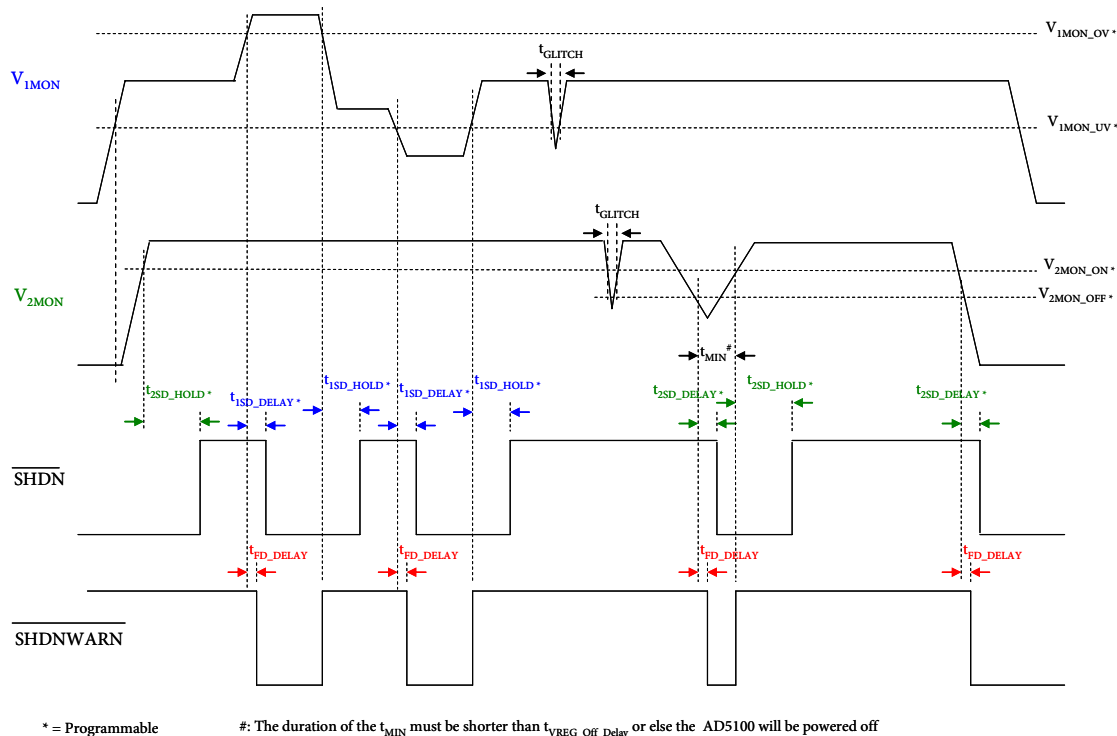

Figure 5.  $V_{1\text{MON}}$  and  $V_{2\text{MON}}$  Shutdown Timing Diagrams (Note  $\overline{\text{RESET}}$  follows  $\overline{\text{SHDN}}$ ).
depending on how long the shutdown programmed-delay is set relative to the  $\overline{\text{SHDNWARN}}$  propagation delay, this feature attempts to allow the system to finish any critical house keeping tasks before shutting down the external device. The  $V_{1\text{MON}}$ , shutdown, and shutdown warning timing diagrams are shown in Figure 5. The ranges of OV and UV Thresholds are shown in Table 5a and the programming codes of the selected-thresholds are found in Table 5b. The defaulted OV threshold is 18.00V and UV threshold is 8.43V. Similarly, the ranges of shutdown hold and delay times are shown in Table 6a and the programming codes of the selected-timings are found in Table 6b. The defaulted shutdown hold time is 200ms delay time is 1200ms.
By default,  $V_{2MON}$  is level-sensitive that the ON and OFF thresholds are both monitored. The ON threshold chosen must be greater than the OFF threshold. When the shutdown function is triggered by the input reaching  $V_{2MON\_OFF}$  threshold, such fault condition will be temporarily recorded in the Fault Detection Register. The  $\overline{SHDNWARN}$  output will transition low for signaling before shutdown occurs. The occurrence of shutdown is depending on how long the shutdown programmed-delay is set relative to the  $\overline{SHDNWARN}$  propagation delay, this feature attempts to allow the system to finish any critical house keeping tasks before shutting down the external device. The  $V_{2MON}$ , shutdown, and shutdown warning pins timing diagrams are also shown in Figure 5. The ranges of ON and OFF Thresholds are shown in Tables 5a and the programming codes of the selected-thresholds are found in Table 5b. The defaulted ON threshold is 7.47V and OFF threshold is 6.95V. Similarly, the ranges of shutdown hold and delay times are shown in Table 6a and the programming codes of the selected-timings are found in Table 6b. The defaulted shutdown hold time is 10ms and delay time is 100ms.
2. When  $V_{1\text{MON}}$  goes over or under the threshold, Figure 5.
3. When  $V_{2\text{MON}}$  is below the turn-on threshold during the rising edge or the turn-off threshold during the falling edge in the default level sensitive mode, Figure 5.
4. When  $\overline{\text{SHDN}}$  output is asserted, Figures 5 and 13.